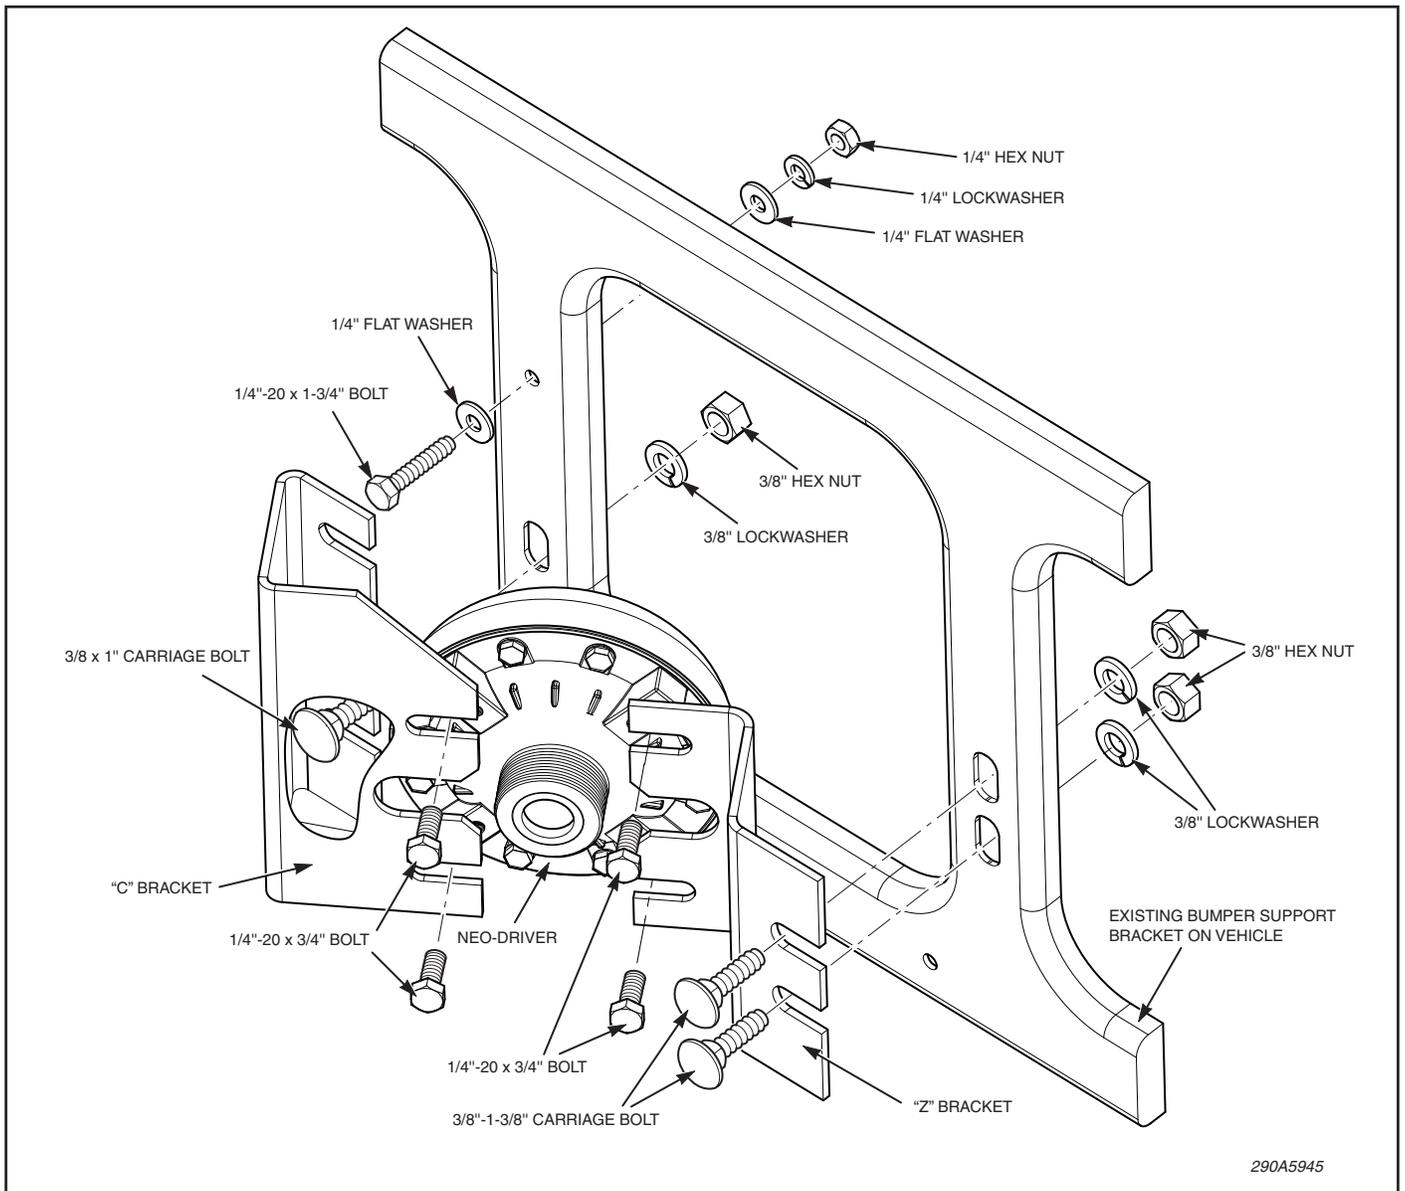

Figure 1.
2. See Figure 1. One “Z”-shaped bracket along with the Driver side “C”-shaped bracket are attached
3. See Figure 1. The “C”-shaped bracket is attached to the side of the support bracket that has an oval slot and a 5/16” dia. hole. (The driver side “C”-shaped bracket will have a large 45° chamfer on the top left side of the bracket when properly mounted.) Secure the “C”-shaped bracket in position using one 3/8” x 1-3/8” carriage bolt, 3/8” lock washer, and 3/8” hex nut to the lower oval slot, and one 1/4”-20 x 1-1/4” bolt, one 1/4” lockwasher, and one 1/4” hex nut to the top 5/16” dia. hole.